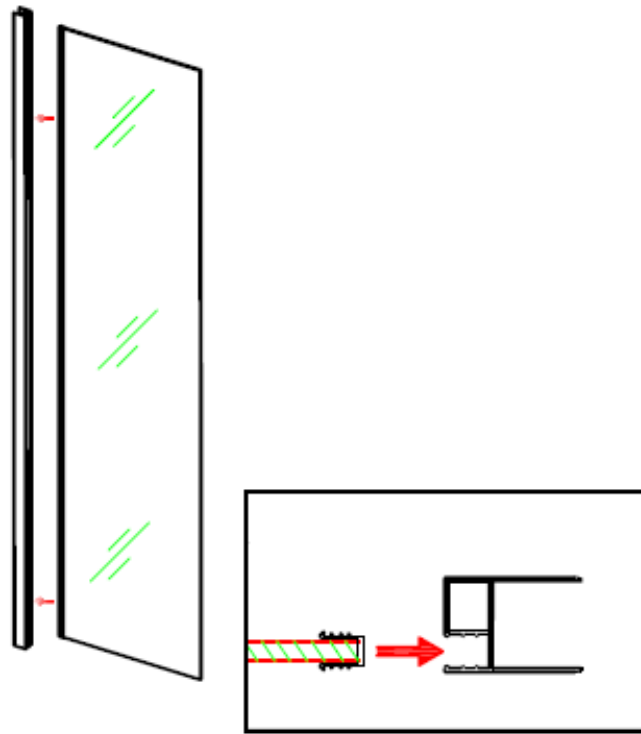

Figure 3
3. Click the U shape strip onto the fixed panel(6SD3) vertically,as showed in figure 3.